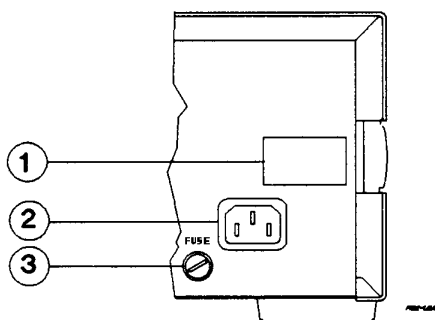

Figure 2-1. Series 664xA and 665xA Power Connection
The supplied cord connects to the power receptacle on the rear panel (**2**, Figure 2-1).
- b. **Series 664xA/665xA** - Use a screwdriver to remove the line fuse from the fuseholder (3, Figure 2-1). Verify that the fuse is as specified on the label. Replace the fuse.